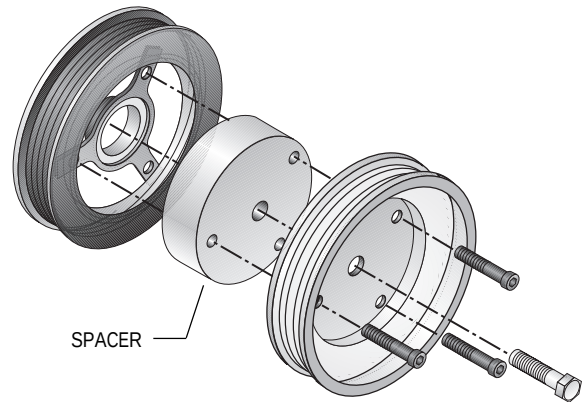

Fig. 2-a
- K. Remove the installation tool and place the supercharger drive pulley and spacer on the front of the harmonic balancer. (See Fig. 2-a.) Feeling for alignment, start the M12 x 1.5 x 65mm center screw and rotate the supercharger drive pulley until the three screw holes are aligned. Start the three M10 x 1.5 x 40mm cap screws with washers, evenly tighten all beginning with the center screw. Torque the M12 screw to 80 ft/lbs and the M10 screws to 25 ft/lbs.